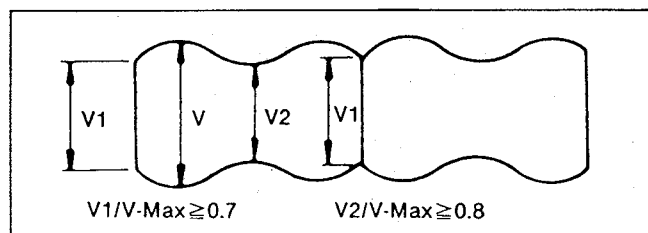

Fig. T7
- (1) Set the tracking control to the fixed position by pushing both of the tracking control up/Down switches, in at the same time. Connect the oscilloscope to P5001 PIN23.
- (2) Playback the monoscope portion of the alignment tape and confirm that RF envelope appears as show Fig. T7.